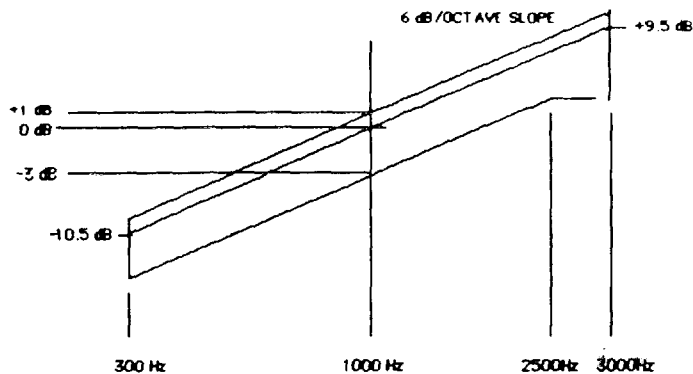

FIGURE 5.9 – AUDIO FREQUENCY RESPONSE
7. Plot the data points obtained above in dB relative to the 1 KHz level and compare with the transmitter's specifications. EIA RS-152B specifies that a transmitter's frequency response be within +1 dB or -3 dB of a +6 dB per octave pre-emphasis from 300 to 3000 Hz (6 dB per octave roll-off allowed between 2500 and 3000 Hz). Refer to figure 5.9.